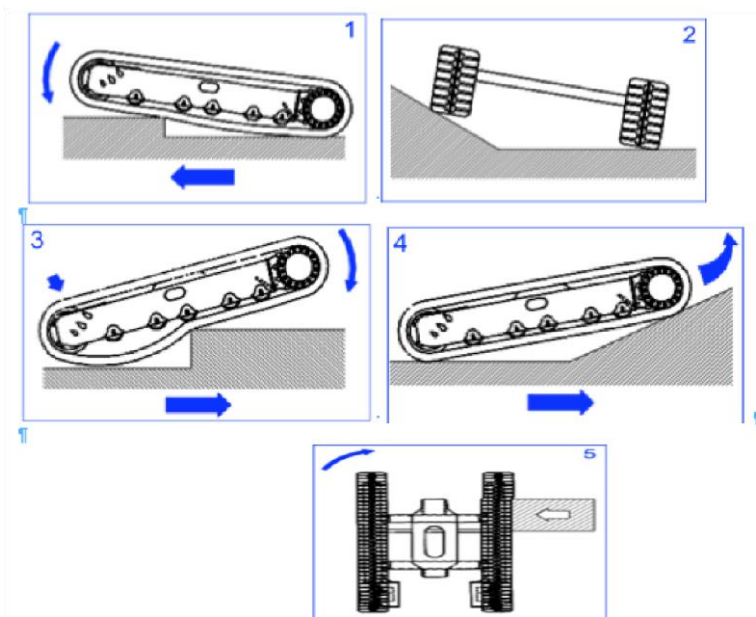

Fig.8 Faulty movements of the crawler
on the horizontal level and the other one on the inclined level figure 8 (2). Always travel with the sliding blocks on the same horizontal level, in order not to damage the rubber crawlers.
- When the machine proceeds in reverse (figure 8. 3), an empty space is created between the carrying roller, the front wheel, and the rubber crawler track, with the risk that this last one comes out of its seat.
- When you change direction in a situation in which the crawler track moves slowly because it needs to pass an obstacle (figure 8 .5), the crawler tracks can be damaged and get out of its seat.